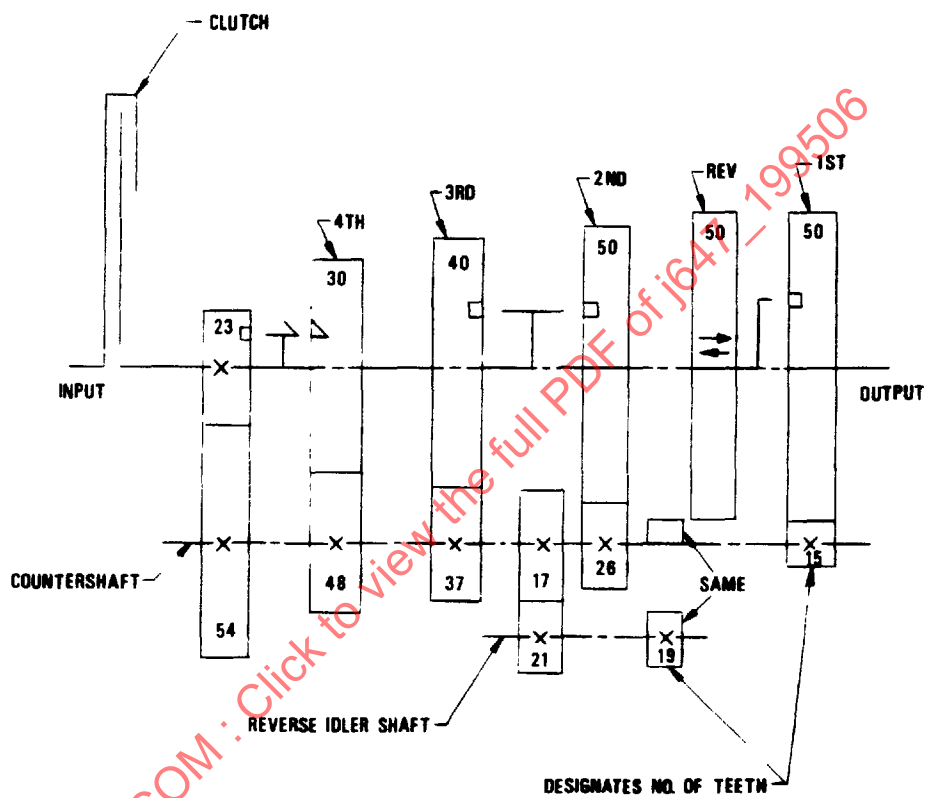

FIGURE 1—FIVE-SPEED TRANSMISSION DIAGRAM—NEUTRAL
- 3. Transmission in Neutral**—Figure 1 illustrates a five-speed countershaft transmission which is constant mesh in all forward gears. Each gear is identified according to the particular transmission speed it provides when engaged, for example: 1st, 2nd, 3rd, and so forth. The number of teeth in each gear is indicated. Synchronized and positive jaw clutches are schematically represented with a drive dog and mating slot in the affected gear. Two drive plates and one driven plate are used to designate the plate clutch assembly. The reverse idler gear is shown out of position for clarity.